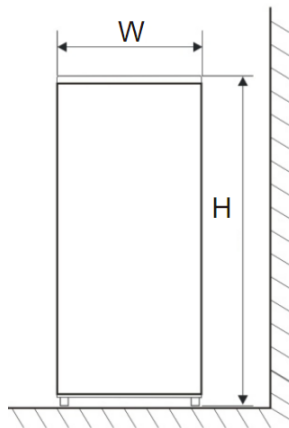
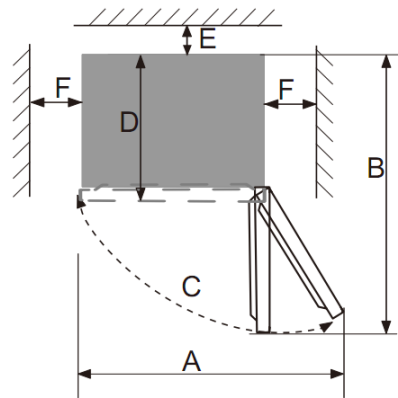

Fig. 1
Fig. 2
Note: Figure 1, Figure 2 only illustrate the space demand of the product.
- Remove the plastic hole cover located on the top left side of the refrigerator as shown in Fig.1.
- Remove the upper hinge cover and the upper hinge on the right side of the refrigerator, as shown in Fig.2.